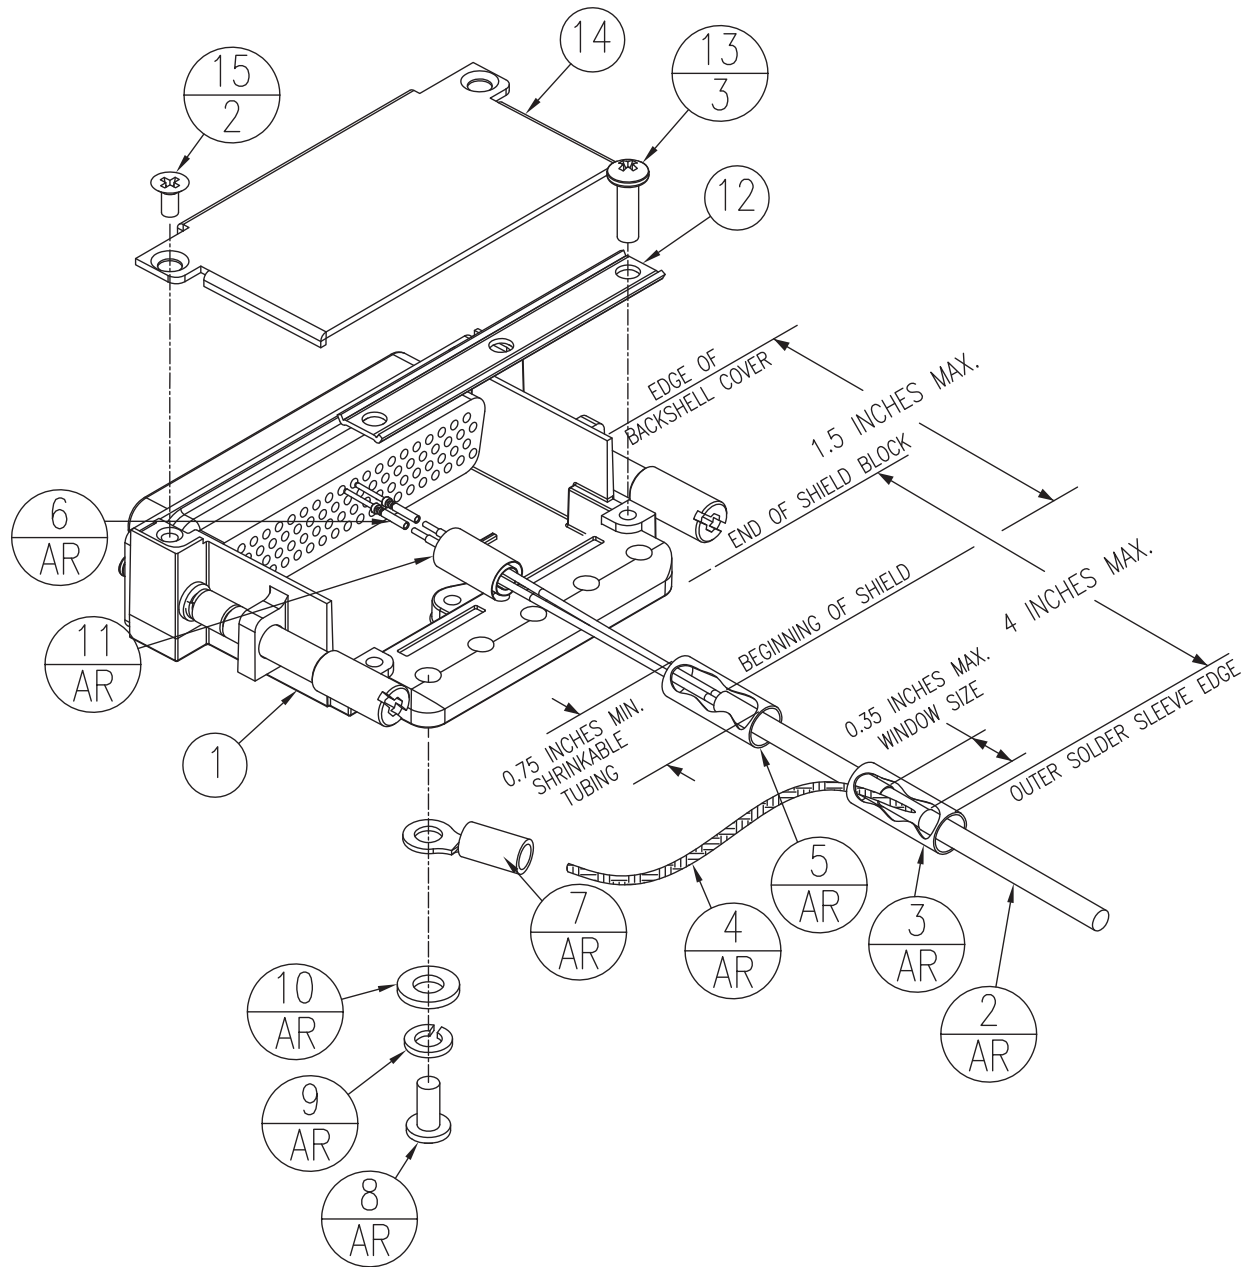
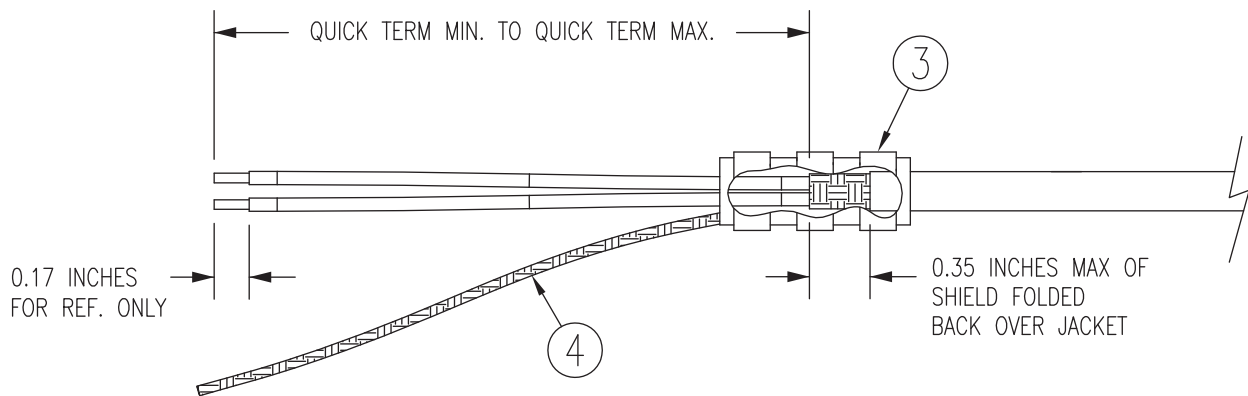

Figure 6-1 Example Shield Install onto a Jackscrew Backshell
Figure 6-5 Shield Termination Technique Method B.1
Table 6-1 and Table 6-2 list the parts needed to install a Shield Block. The item numbers in these tables correspond to the example drawing in Figure 6-1. The parts listed in Table 6-1 are supplied in the G5 installation kit. The parts listed in Table 6-2 are to be provided by the installer as required.
In Figure 6-1, "AR" denotes quantity "As Required" for the particular installation.
- At one end of a shielded cable (item 2, Figure 6-1) measure a distance between Window Min and Window Max (Table 6-3) and cut a window (with a max size of 0.35 inch) in the jacket to expose the shield. Use caution when cutting the jacket to avoid damaging the individual braids of the shield. When dealing with a densely populated connector with many cables, it may prove beneficial to stagger the windows throughout the Window Min to Window Max range. If staggering is not needed, the Ideal Window length is recommended. The following tools are recommended to make the window cut:
6. Cut the flat braid to a length that, with the addition of a ring terminal, will reach one of the tapped holes of the Jackscrew Backshell (item 1, Figure 6-1). An appropriate amount of excess length without looping should be given to the flat braid to allow it to freely move with the wire bundle.
9. Terminate the ring terminal to the Jackscrew Backshell by placing the following items on the screw (item 8, Figure 6-1) in order: split washer (item 9, Figure 6-1), flat washer (item 10, Figure 6-1), ring terminal (item 7, Figure 6-1). This assembly can then be screwed into the tapped holes on the Jackscrew Backshell.
10. It is recommended to wrap the cable bundle with silicone fusion tape (item 11, Figure 6-1) at the point where the backshell clamp (item 12, Figure 6-1) and backshell housing will contact the cable bundle.
11. Place the smooth side of the backshell clamp across the cable bundle and secure using the provided screws (item 13, Figure 6-1).
12. Attach the backshell cover (item 14, Figure 6-1) to the backshell using the provided screws (item 15, Figure 6-1).
If desired, the drain wire termination (item 3, Figure 6-1) and the floating shield termination (item 5, Figure 6-1) can be effectively combined into a “Quick Term”. This method eliminates the float in the cable insulation and moves the placement of the window described in Method A.1. This technique is depicted in Figure 6-5.
1. At one end of a shielded cable (item 2, Figure 6-1) measure a distance between Window Min and Window Max (Table 6-4) and cut a window (with a max size of 0.35 inch) in the jacket to expose the shield. Use caution when cutting the jacket to avoid damaging the individual braids of the shield. When dealing with a densely populated connector with many cables, it may prove beneficial to stagger the windows throughout the Window Min to Window Max range. If staggering is not needed, the Ideal Window length is recommended. The following tools are recommended to make the window cut:
- Connect a flat braid (item 4, Figure 6-5) to the folded back shield of the prepared cable assembly. The flat braid should exit the front of the termination and towards the connector. The flat braid should not exit the rear of the termination and loop back towards the connector. Make the connection between the flat braid and the prepared cable assembly using an approved shield termination technique.
Slide a solder sleeve (item 3, Figure 6-5) onto the prepared cable assembly and connect the flat braid to the shield using a heat gun approved for use with solder sleeves. Using a solder sleeve with a pre-installed flat braid may ease the assembly. The chosen size of solder sleeve must accommodate both the number of conductors present in the cable and the flat braid.
Solder a flat braid to the folded back shield of the prepared cable assembly. Ensure a solid electrical connection through the use of acceptable soldering practices. Use care to avoid applying excessive heat that burns through the insulation of the center conductor(s) and shorts the shield to the signal wire(s). Slide a minimum of 0.75 inch of Teflon heat shrink tubing (item 3, Figure 6-5) onto the prepared wire assembly and shrink using a heat gun. The chosen size of heat shrink tubing must accommodate both the number of conductors present in the cable and the flat braid.